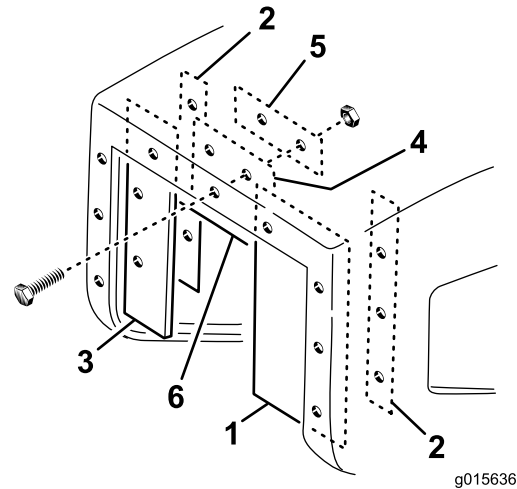

Figure 23
1. Secure the wide shield to the right inside lip of the hopper opening with a long flat, 3 screws (#10 x 1 inch) and flange nuts (#10) as shown in Figure 23.
2. Secure the narrow shield to the left inside lip of the hopper opening with a long flat, 3 screws (#10 x 1 inch) and flange nuts (#10) as shown in Figure 23.
4. Secure the top shield to the upper inside lip of hopper opening with a short flat, 2 screws (#10 x 1 inch) and 2 flange nuts (#10-24) as shown in Figure 23.